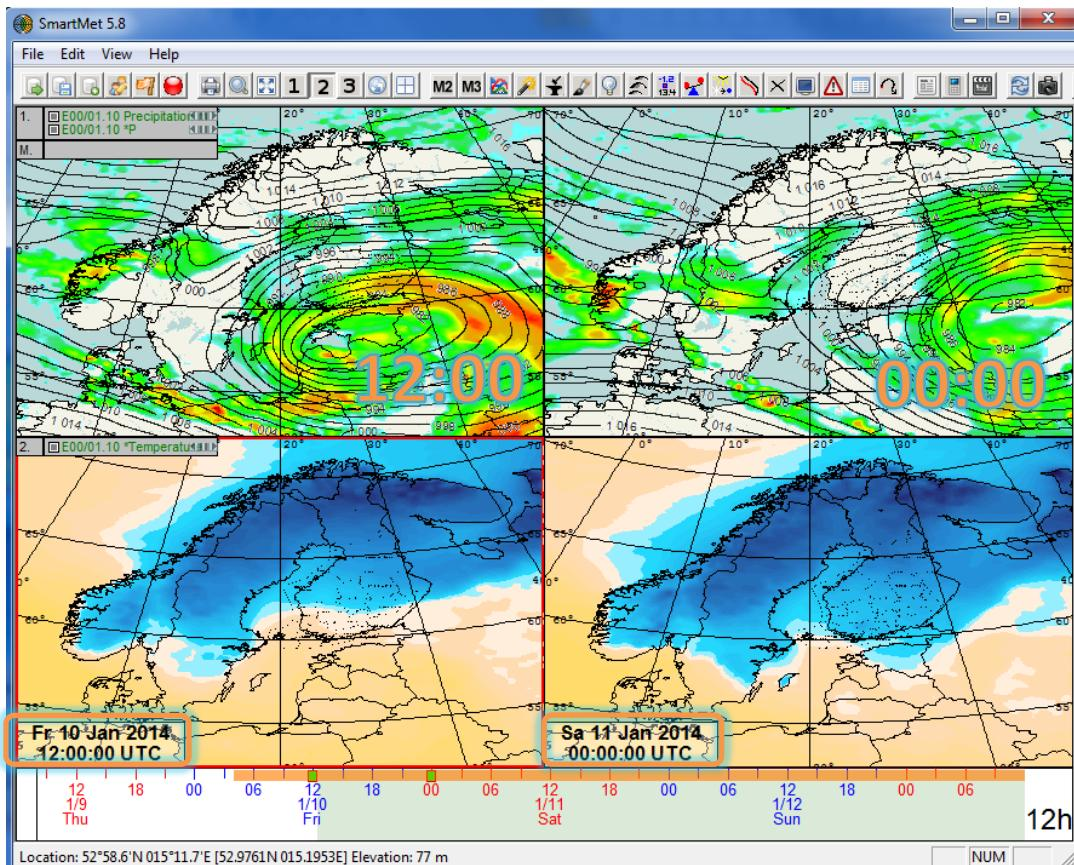

Figure 2.7 2x2 grid in normal mode. First map row shows ECMWF precipitation & pressure 12:00 UTC & 00:00 UTC, second row shows temperatures at the same time.
- *Normal*: in the main map view normal mode is the only option. In normal mode different time steps are shown on different columns and different map rows on different rows (Figure 2.7).